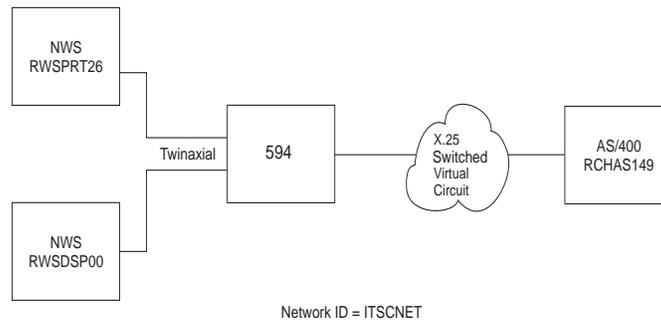

Fig. 5: X.25 Switched configuration
- Fig. 5: X.25 Switched configuration 4